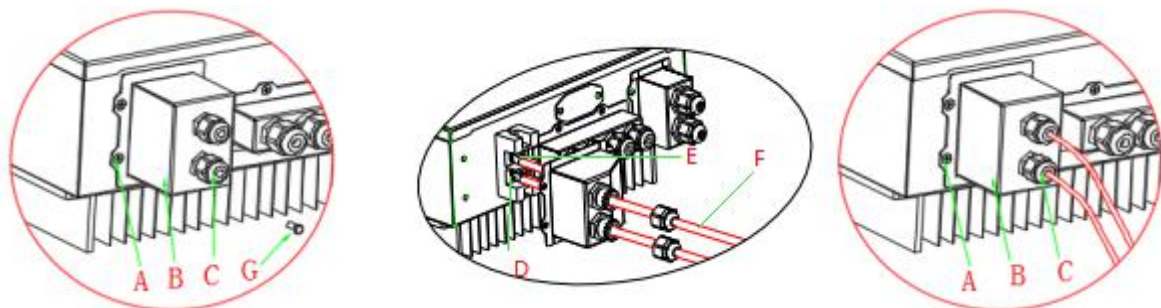

Fig. 6 Battery connection (Test battery wires polarity before connection)
- Step 1:** Loosen 4 screws (A) using a screwdriver (fig. 6);
- Step 2:** Remove the waterproof cover (B), loosen the cable gland (C), and then remove the stopper (G);
- Step 3:** Route the battery wires (F) through the cable gland, then connect battery wires using OT terminal (E);